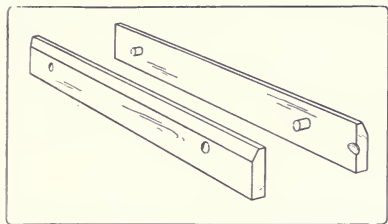

Fig. 205. Winding-Sticks, 12 inches Long.
*Winding-sticks*, Fig. 205, consist of a pair of straight strips of exactly the same width thruout. They are used to find out whether there is any twist or "wind" in a board. This is done by placing them parallel to each other, one at one end of the board, and the other at the other end. By sighting across them, one can readily see whether the board be twisted or not, Fig. 206. The blades of two framing-squares may be used in the same manner.